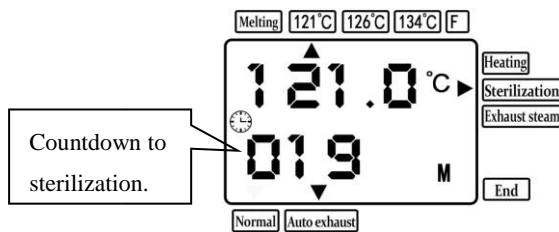

Fig. 19
(2) After the temperature in the pot rises to the sterilization temperature, it is in the state of sterilization and enters the sterilization countdown interface (Fig.19).